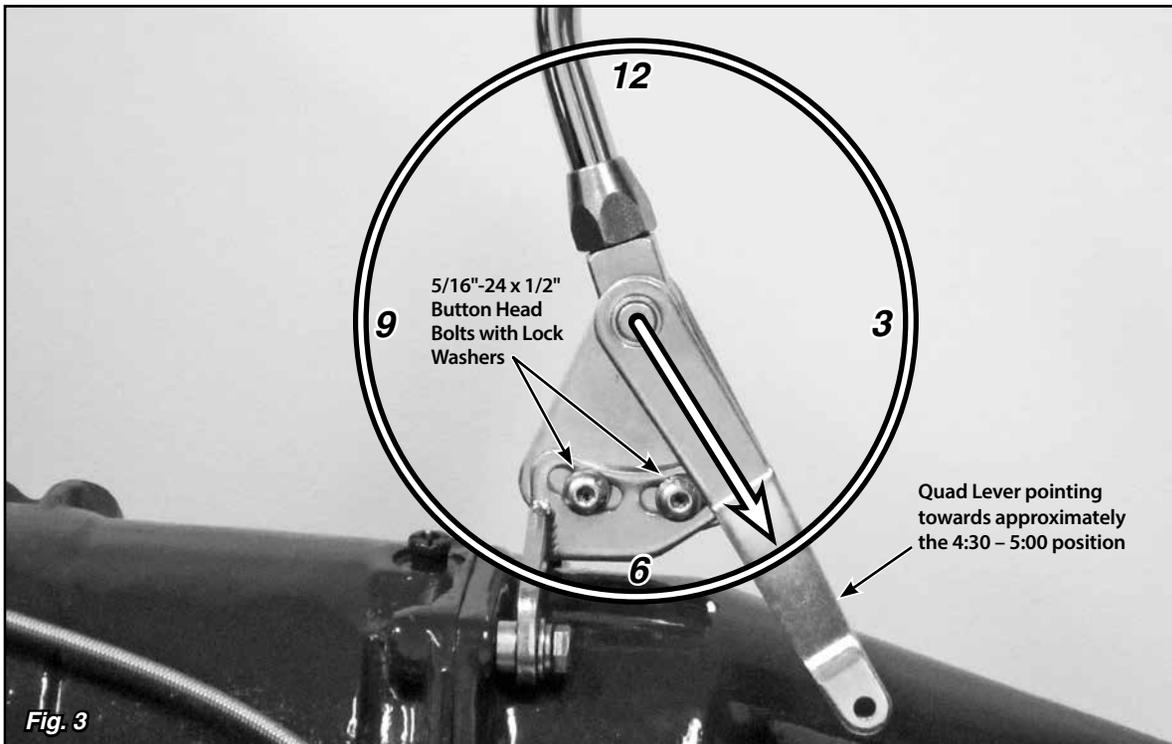

Fig. 3
Step 4: Insert the shifter assembly into the tailmount bracket so that the bolt holes line up with the curved, slotted holes in the banana brackets, and reinstall the 5/16"-24 x 1/2" button head bolts and lock washers. **Fig. 3**
Step 6: Make sure the two 5/16"-24 x 1/2" button head bolts in the driver side of the shifter assembly on the banana bracket are tight. Move the Shifter through all the gear positions. Make sure that the shifter lever and knob do not come in contact with the dash or the seat. The shifter assembly can be tilted forward or backward if needed by loosening the 5/16"-24 x 1/2" button head bolts in the banana bracket on the driver side. Be sure to re-tighten the bolts in the banana bracket after adjusting the angle of the shifter assembly. **Fig. 3**
Step 7: Put the Shifter into the Park position and check the position of the quad lever. It will need to be pointing to about the 4:30 – 5:00 position. If it is not, loosen the set screw in the top of the quad lever with a 1/8" Allen wrench and slide the quad lever off of the shaft. Reposition it on the shaft at approximately the 4:30 – 5:00 position, and retighten the set screw. **Fig. 3**